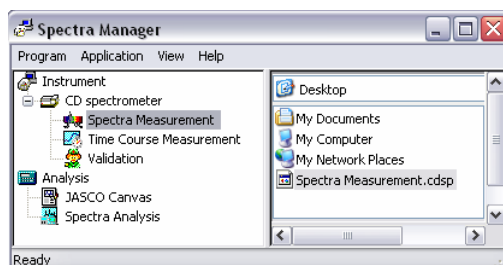

Figure. 2.6 Starting [Spectra Measurement] program
- (1) Click the desired measurement or analysis program in the [Spectra Manager] window. (See Fig. 2.6)
- (1) Click the desired measurement program in the [Spectra Manager] window (see Fig. 2.6)
This menu displays information about the program. In the case of the [Spectra Measurement] program (see Fig. 2.6) the following dialog box is displayed.